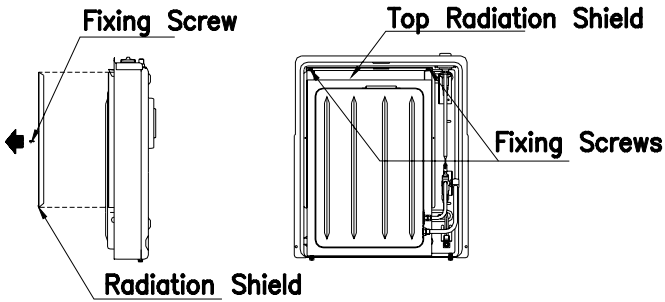

Fig. 8
- Remove the top radiation shield and the lateral shield, unscrewing their screws. (Fig. 8).